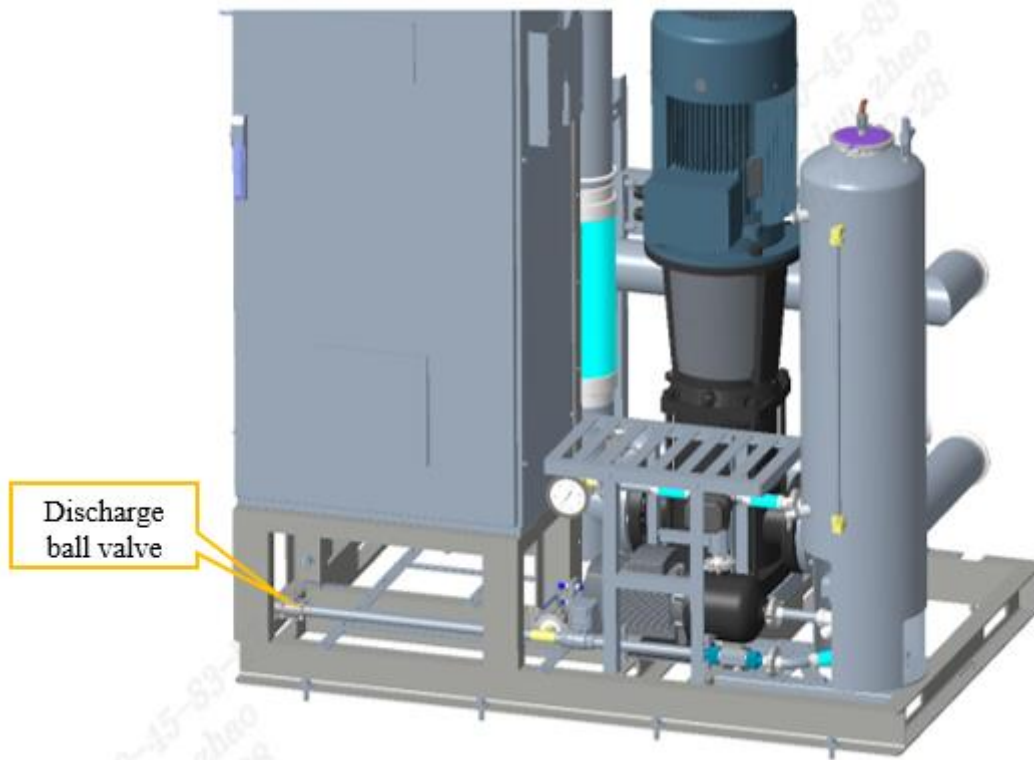

Figure 9-3 Location of discharge ball valve in pump station
- a) Find the position of the discharge valve (Figure 9-3).
- b) Connect the drain hose to the drain ball valve and tighten it with a hose clamp; Guide the hose outside the equipment and open valve V202 (Figure 9-3) to drain the system.